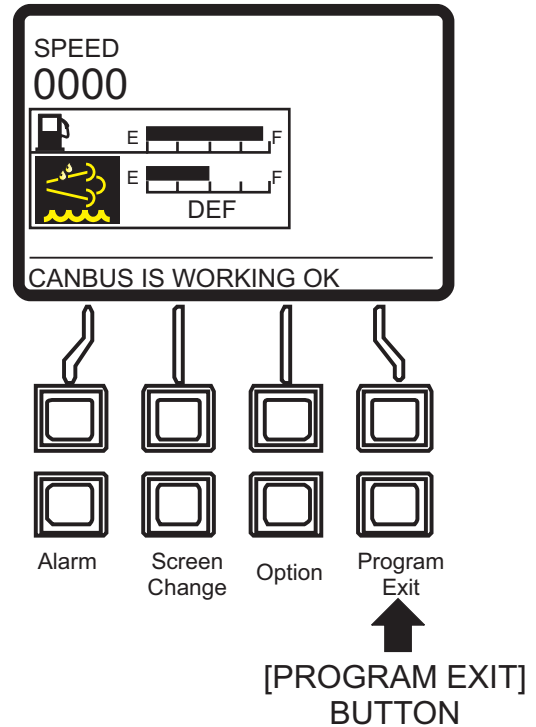

Figure 88. Main Screen
3. Press the **[Program/Exit]** button (Figure 88) to enter the Main Menu.